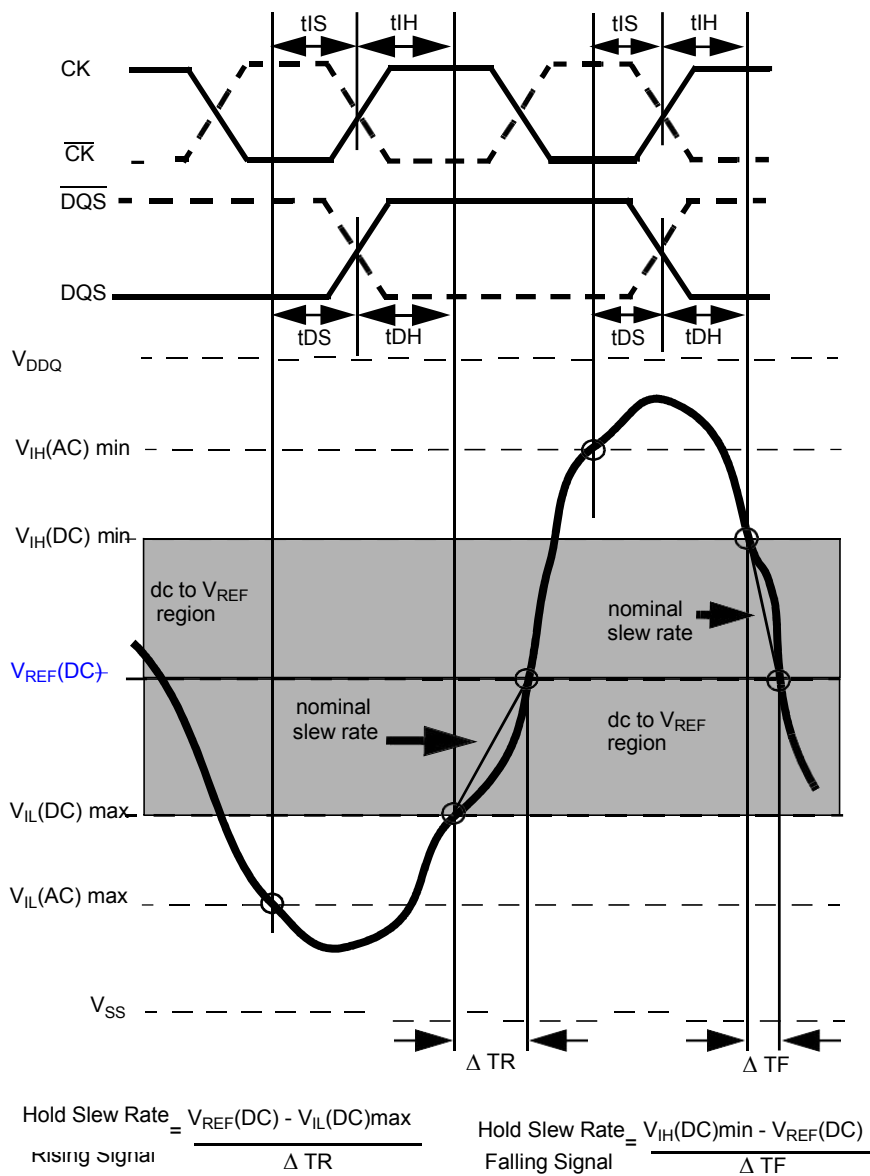
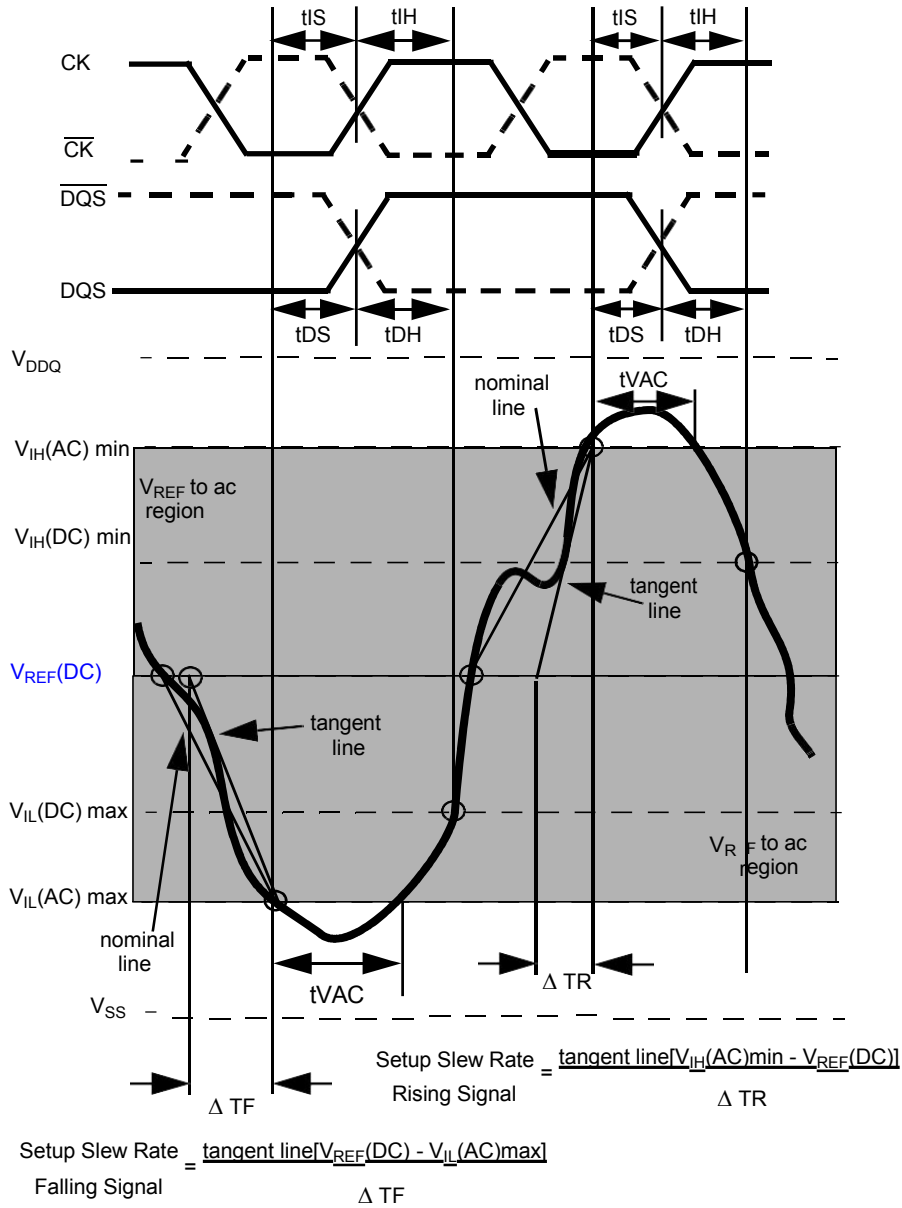
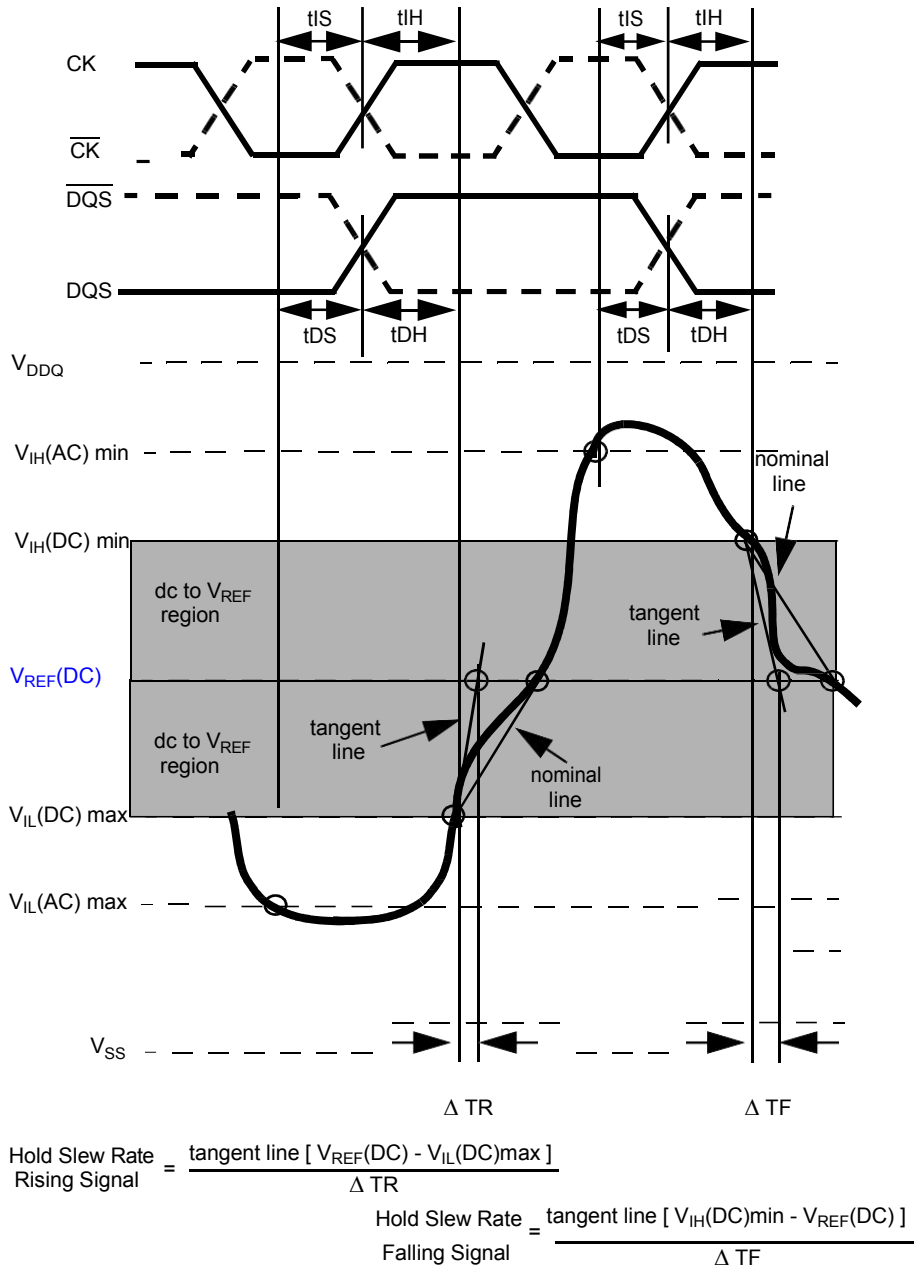

Figure 22. Illustration of nominal slew rate for hold time  $t_{DH}$  (for DQ with respect to strobe) and  $t_{IH}$  (for ADD/CMD with respect to clock).
Figure 23. Illustration of tangent line for setup time  $t_{DS}$  (for DQ with respect to strobe) and  $t_{IS}$  (for ADD/CMD with respect to clock)
Figure 24. Illustration of tangent line for hold time  $t_{DH}$  (for DQ with respect to strobe) and  $t_{IH}$  (for ADD/CMD with respect to clock)
Example: tIS (total setup time) = tIS(base) + ΔtIS Setup (tIS) nominal slew rate for a rising signal is defined as the slew rate between the last crossing of VREF(DC) and the first crossing of VIH(AC)min. Setup (tIS) nominal slew rate for a falling signal is defined as the slew rate between the last crossing of VREF(DC) and the first crossing of VIL(AC)max. If the actual signal is always earlier than the nominal slew rate line between shaded 'VREF(DC) to ac region', use nominal slew rate for derating value (see Figure 21). If the actual signal is later than the nominal slew rate line anywhere between shaded 'VREF(DC) to ac region', the slew rate of a tangent line to the actual signal from the ac level to dc level is used for derating value (see Figure 23). Hold (tIH) nominal slew rate for a rising signal is defined as the slew rate between the last crossing of VIL(DC)max and the first crossing of VREF(DC). Hold (tIH) nominal slew rate for a falling signal is defined as the slew rate between the last crossing of VIH(DC)min and the first crossing of VREF(DC). If the actual signal is always later than the nominal slew rate line between shaded 'dc to VREF(DC) region', use nominal slew rate for derating value (see Figure 22). If the actual signal is earlier than the nominal slew rate line anywhere between shaded 'dc to VREF(DC) region', the slew rate of a tangent line to the actual signal from the dc level to VREF(DC) level is used for derating value (see Figure 24).